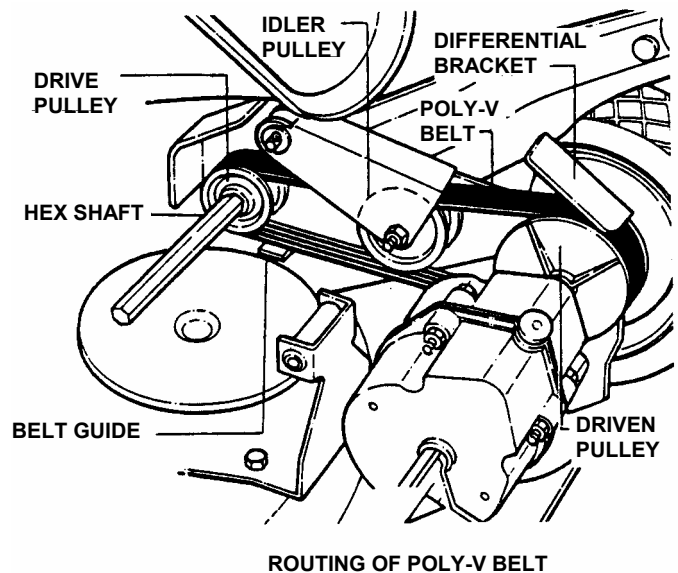

FIGURE 4.17
2. Note the routing of the old belt around the three pulleys before removing it. See Figure 4.17.
5. Twist belt sideways and pull it upward between the differential bracket and driven pulley and then down into the pulley groove. Make sure the Poly-V Belt is above belt guide. See Figure 4.17.